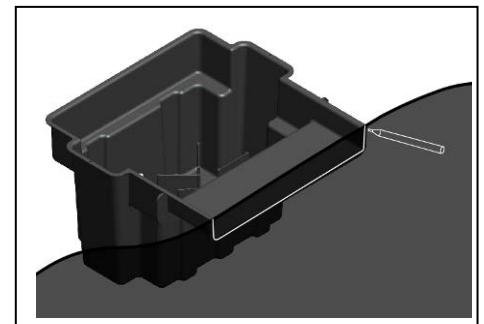

Fig. 3
3. Check the liner will sit freely up your tank without wrinkling or pulling. Carefully clean and rinse the liner inside and out with water, then dry it with paper towels or a clean cloth. The surface to be sealed must be clean and dry for the sealer to bond properly. Mark the liner with the shape of the spillway. A white or yellow marker works well to do this. Fig. 3